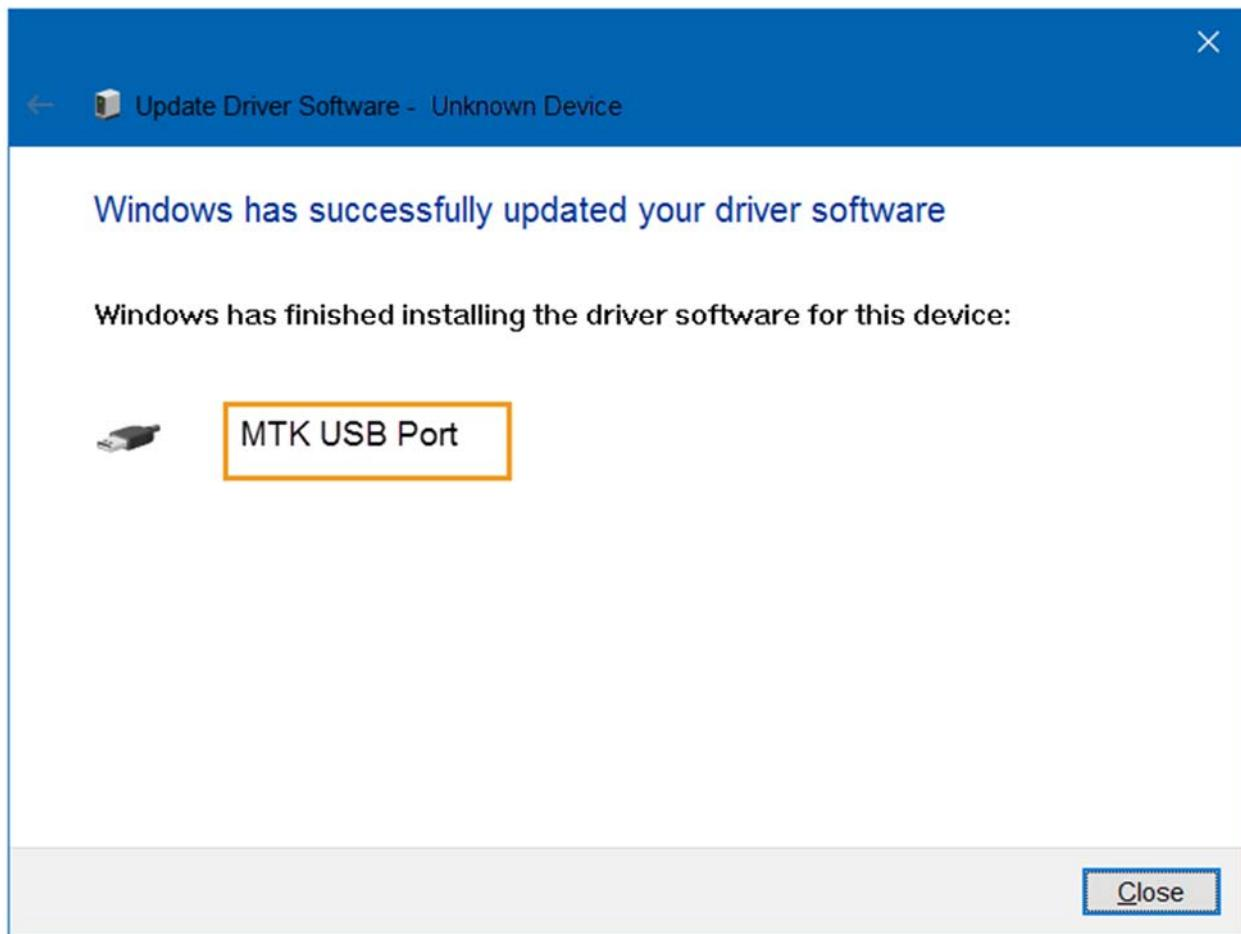

Figure 16. MTK USB Port on Windows 8 or later
- 5) Browse to the driver installation path, such as MS\_USB\_ComPort\_Driver\v1.1032.1\Win7, then click **Next**. After a few seconds, the driver software and MTK USB Port device should be installed, as shown in Figure 16.